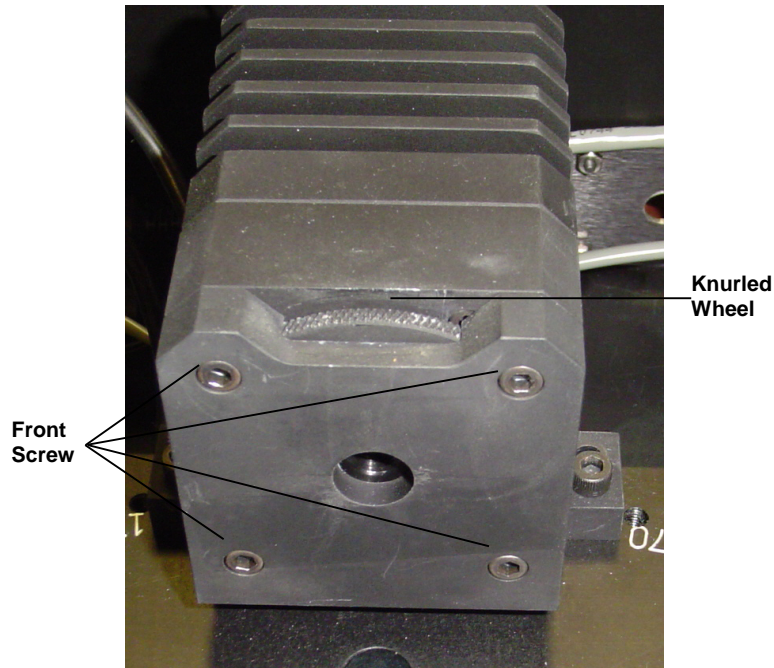

Figure 3-3: Front of Laser Housing
- 1) Loosen the two set screws on the side of the laser and the four screws on the front face of the laser (Figures 3-3).